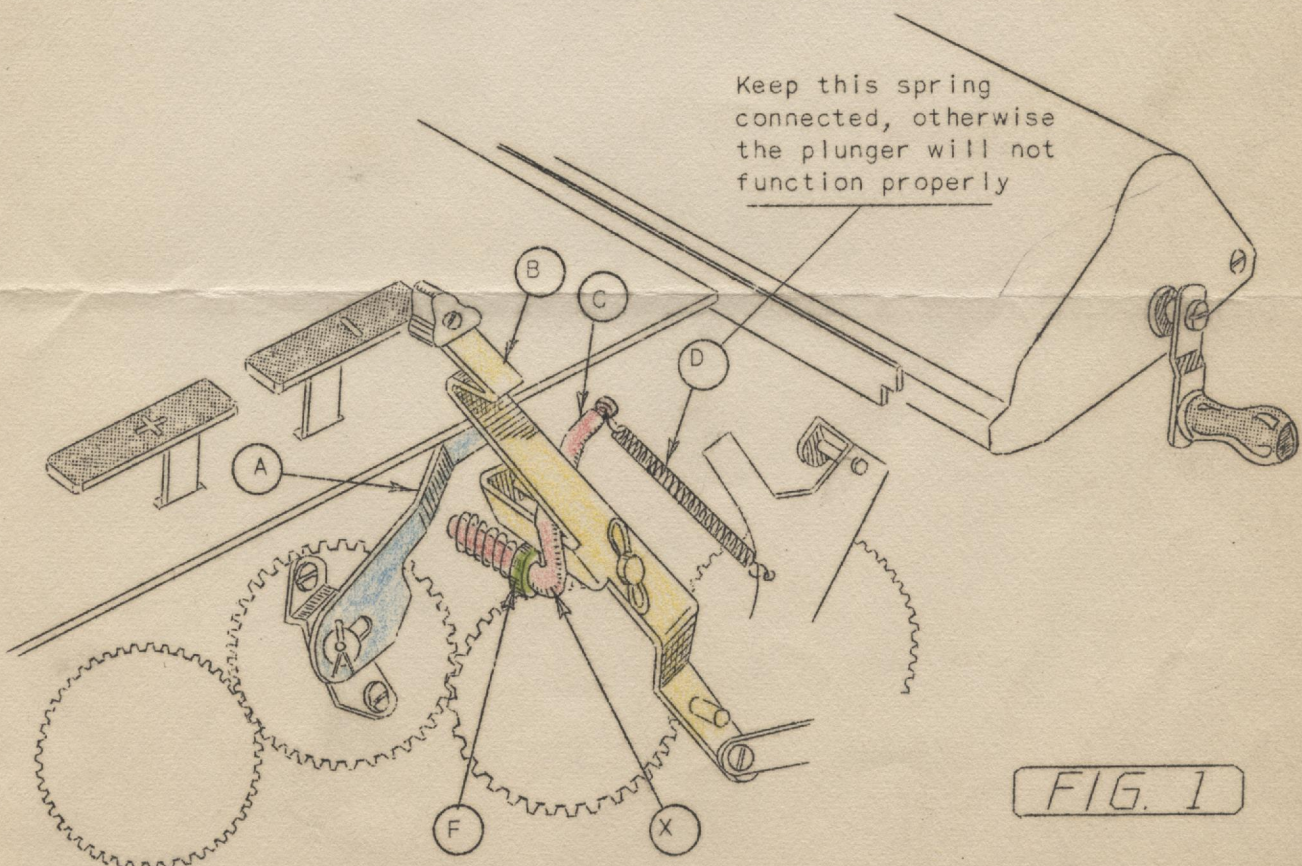

FIG. 1
1. Stock has been removed from the 49070 counting finger (A) to avoid interference with the movement of the 47900 plunger rod. Figure 1